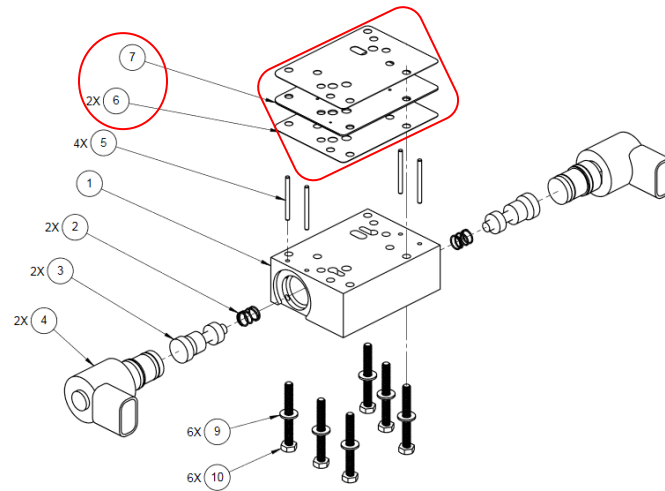

Figure 7
Reference Figure 7
Reference Figure 7.
19. Align the solenoid block on the gasket stack. **Reference Figure 7.**